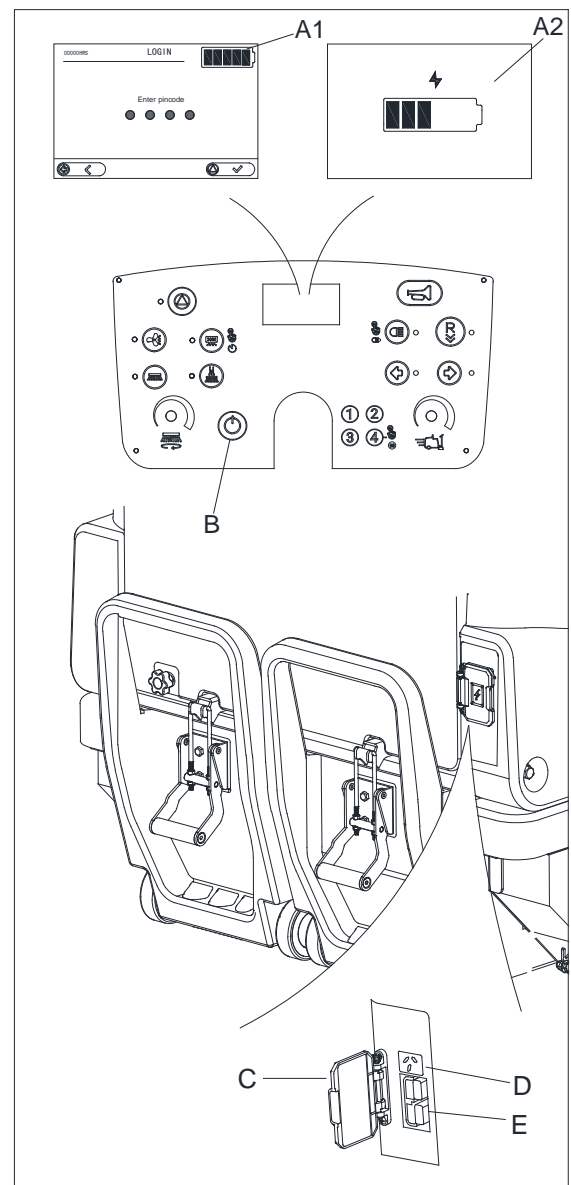

Figure 16
2. Press the power button to turn off the machine (B, Figure 16).
4. Open the charging port protective cover (C, Figure 16). Connect the external charger's connector to the DC charging port on the machine (E, Figure 16). When the external charger is connected to the machine, all functions on the machine will automatically shut down.
8. Press the power button to turn on the machine (B, Figure 16) and check the battery status on the panel display (A1, Figure 16).
9. Open the charging port protective cover (C, Figure 16). Connect the power cable to the on-board charging port on the machine (D, Figure 16), then plug the other end of the power cable into the socket.
10. The battery charging status can be viewed on the LCD display (A2, Figure 16).
13. Press the power button to turn on the machine (B, Figure 16) and check the battery status on the panel display (A1, Figure 16).